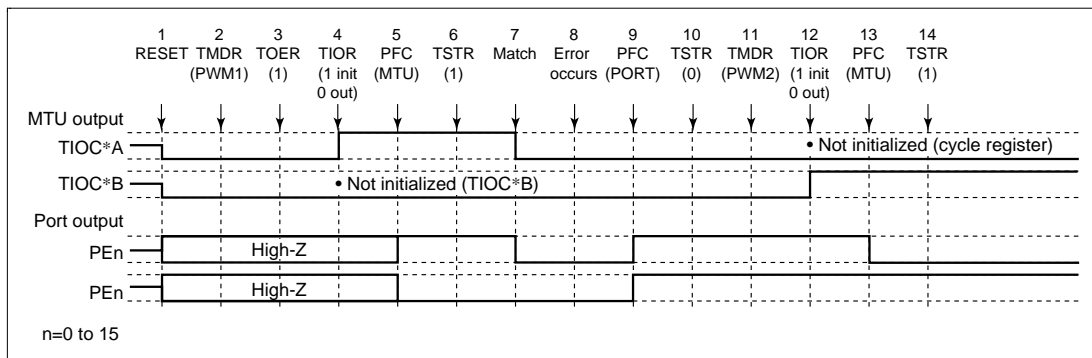

Figure 12.104 Error Occurrence in PWM Mode 1, Recovery in PWM Mode 2
(9) Operation when Error Occurs during PWM Mode 1 Operation, and Operation is Restarted in PWM Mode 2: Figure 12.104 shows an explanatory diagram of the case where an error occurs in PWM mode 1 and operation is restarted in PWM mode 2 after re-setting.